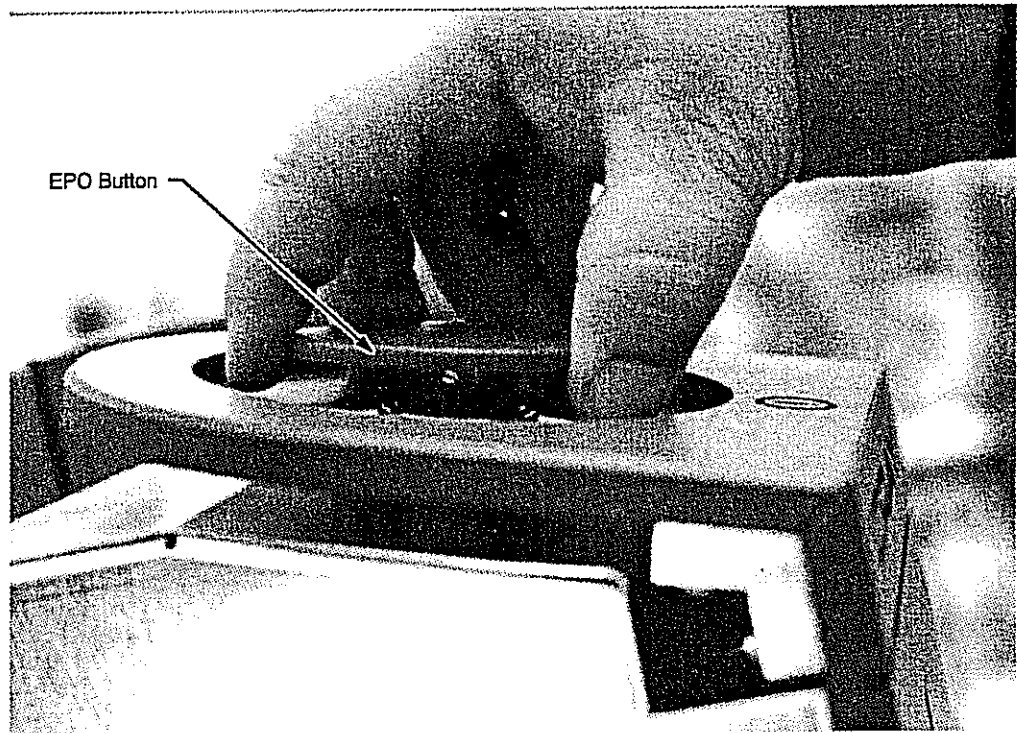

Figure 7-2. EPO Button
3. Ensure that the emergency power-off (EPO) button, located on the control panel, is extended outward by turning it counterclockwise to the stop. If it is in, it will now pop out. Refer to Figure 7-2.